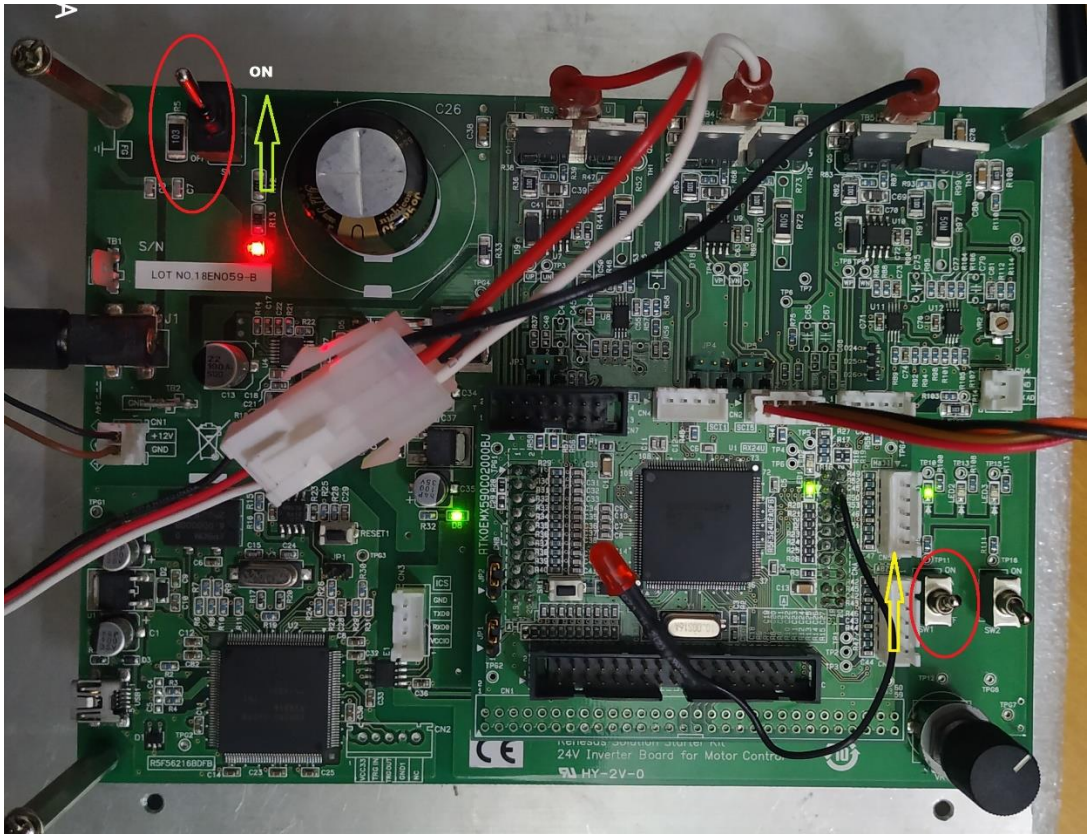

Figure 8. Switch Conditions
- Figure 8 below shows the switch conditions required to run the motor